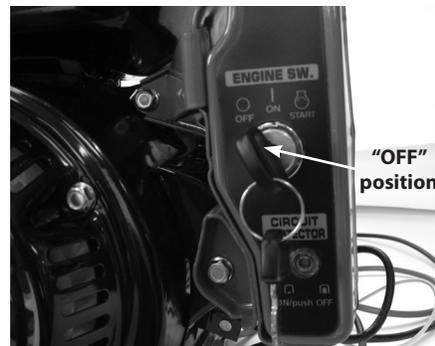

FIGURE 10
6. To stop, turn key to **OFF** position. **SEE FIGURE 10.**